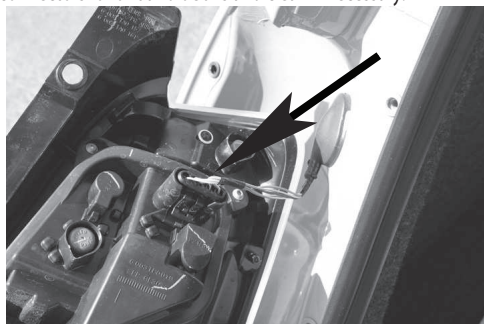

Figure 2
3. Locate vehicle's factory wiring harness connectors shown in **Figure 2**. The connectors will be similar to those on RV harness. Separate connectors from both sides and set aside. Inspect connectors for dirt and debris and clean if necessary.